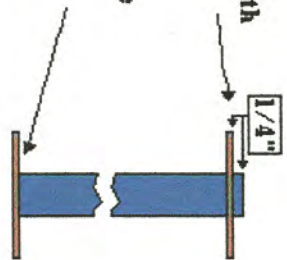

Figure 5
B. Assemble shock cord mount as shown in Figure 5. Then, install finished motor mount into the body tube (flush with tube end).